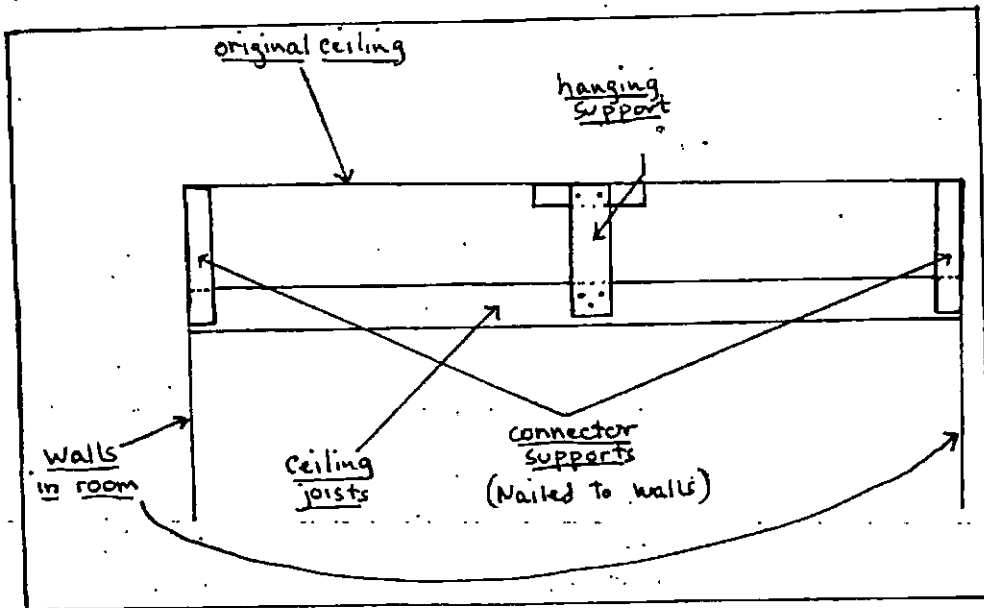

FIGURE 40
4. Nail ceiling joists to hanging and connector supports; toenail to walls. Run at 24" centers. (Corner joists nailed directly into walls.) (See Fig. 40)